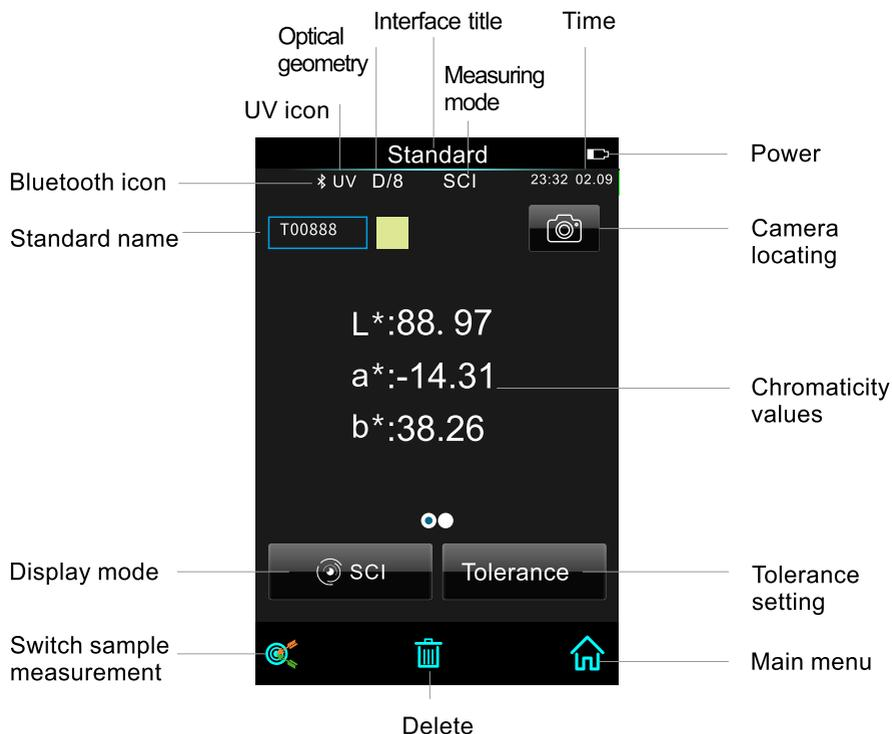
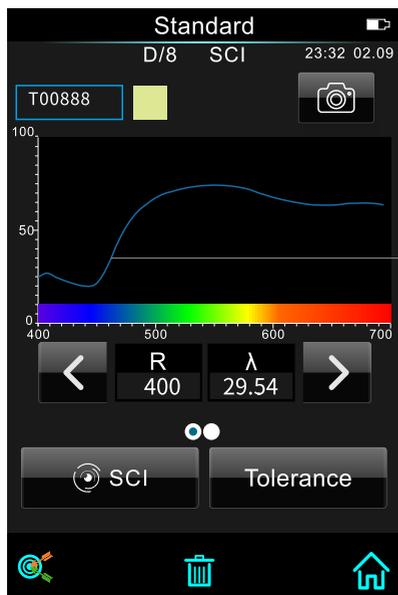
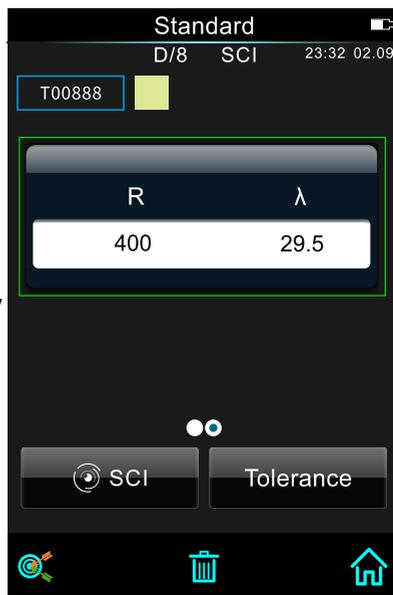

Figure 11 Standard Measurement
Figure 12 Standard reflectivity 1
Figure 13 Standard reflectivity 2
In "Standard Measurement" interface, Align the measuring aperture to sample tightly and press the "Measuring Button". Then there will be a "Beep" voice, and the LED indication light will flash then off. After that, sounds the "Beep" voice again that means measurement finished. The interface of the tested sample is shown in Figure 11, Figure 12 and Figure 13.
10)Wavelength switch button: As shown in Figure 12, click \leftarrow or \rightarrow , the wavelength and reflectivity of the current sample will be switch at the interval of 10nm. Partial instrument models only show partial reflectivity, as shown in figure 13.